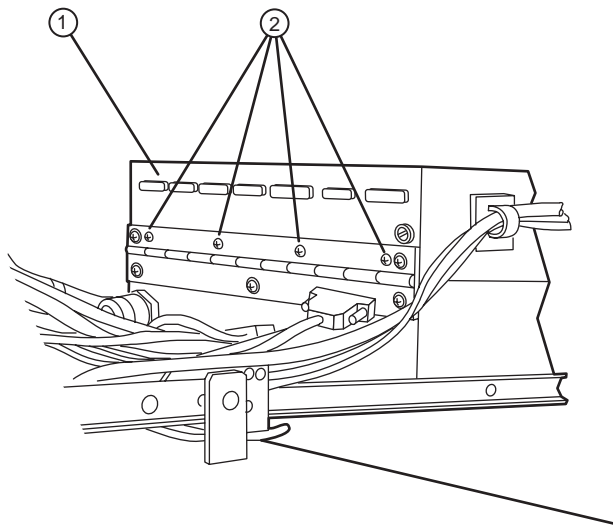

Figure 3-3 Electronics box rear screws.
- ①– CPU electronics box. ②–Seven connectors and fourteen standoffs.
③–X503level and feedback. ④–X501 film sensors. ⑤–X502 Startbox. ⑥–X500 temperature sensor. ⑦–X400 RS232/CL. ⑧–X402 OLP Interface. ⑨–X400 ATB.
7. Using a phillips screwdriver, remove the four (4) hinge screws at the rear of the box. Remove the four central screws only. Refer to Figure 3-3.